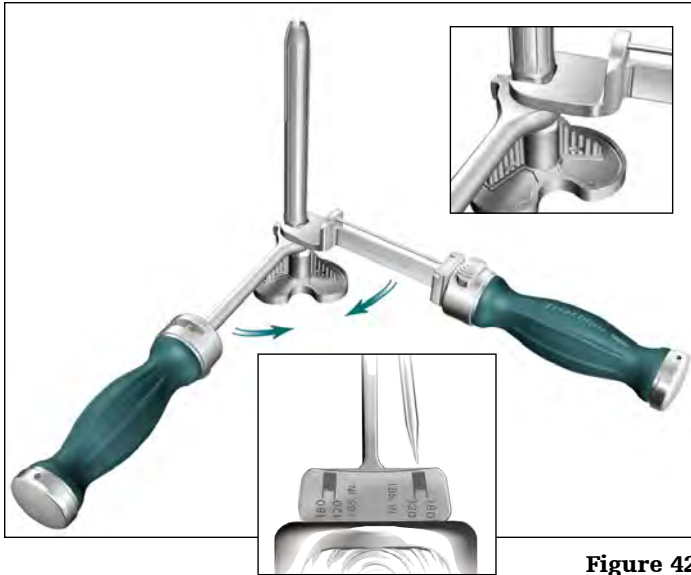

Figure 42
- Tighten by pulling the wrenches **together**. Torque stem to 120 in-lbs as indicated on the Universal Torque Wrench (**Figure 42**).